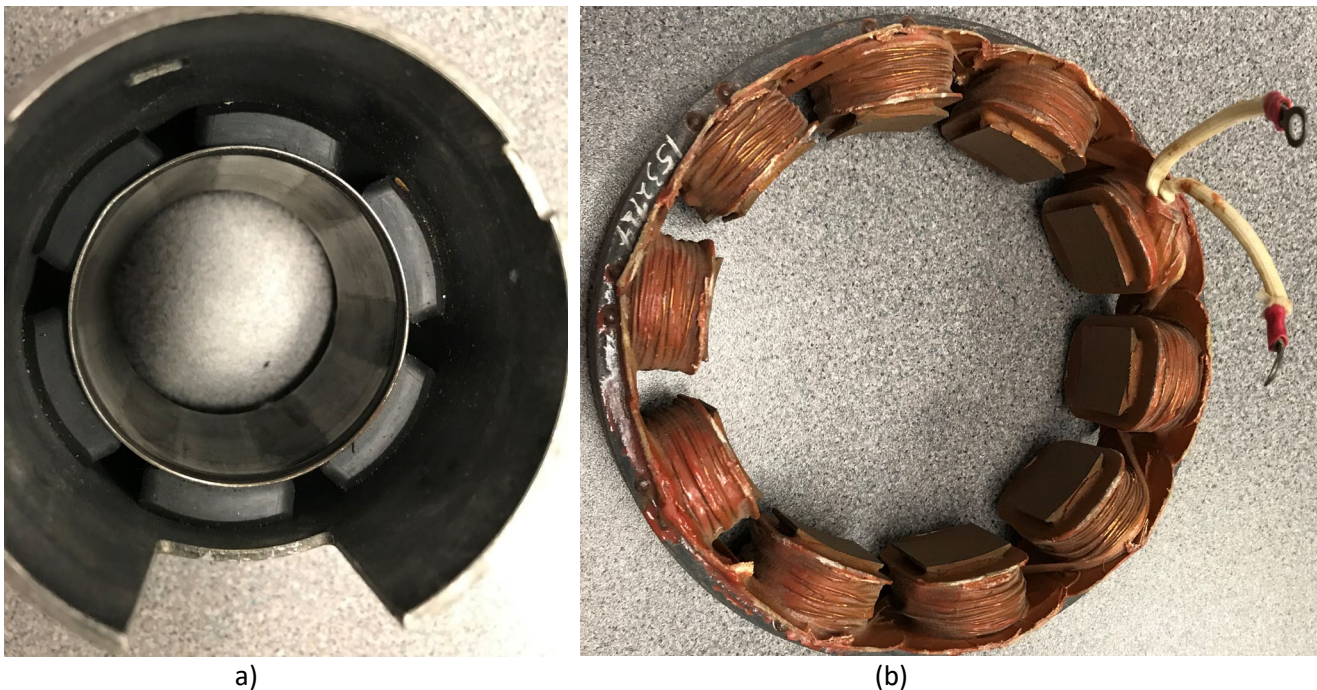

Figure 6.9) (a) 6-Pole stator with permanent magnets, (b) 10-pole wound field stator.
Since permanent magnet (PM) DC motors are far more commonly used for smaller applications that are often done by college students (e.g. the Robot on the cover page), this book will emphasize them more than the other types shown in Table 6.1. Photos of PM-DC motors are shown in Figures 6.5 and 6.7. PM-DC motors are different than most motors because the external magnetic field in the stator is caused by permanent magnets instead of electromagnets. Figure 6.9 shows a permanent magnet stator side by side with a wound stator. The wound stator has 10 **salient** (or protruding) poles. While the permanent magnet stator is much **smaller**, **lighter** and more **efficient** (because there are no windings and subsequently no I^2R losses through the windings), the permanent magnet produces a much **weaker** magnetic field and therefore results in lower output power for PM-DC motors. Since the output power is reduced, the combination of speed and torque is also reduced as shown in Equation 6.4. Another issue with PM-DC motors is that magnets in the stator can become **demagnetized**.